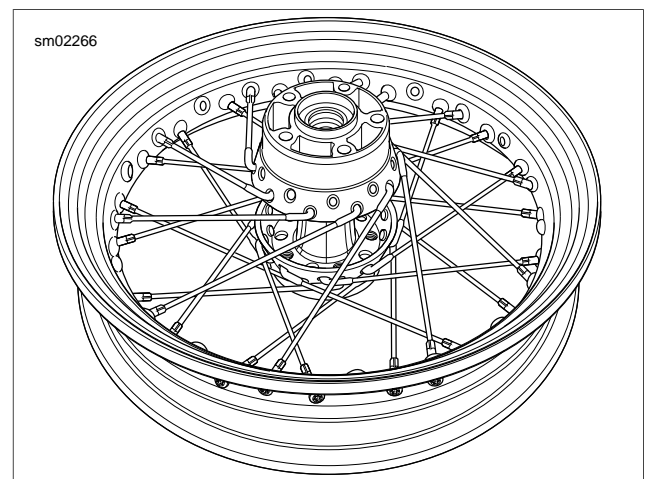

Figure 2-27. Sprocket Side Up: Bottom Row of Spokes Laced
2. See Figure 2-27. Place the remaining nine lower row spokes, angled clockwise, into hub and rim.